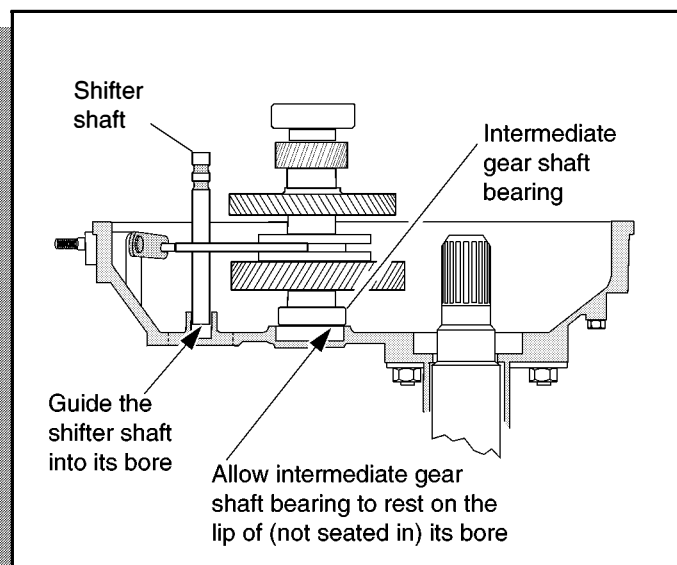

Fig. C-16 Locating Shifter Shaft Into Bore
- B. Guide the shifter shaft into its bore, while allowing the intermediate gear shaft bearing (7) to rest on the lip of (not seated in) its bore (Ref Fig. C-16 on page C-6).